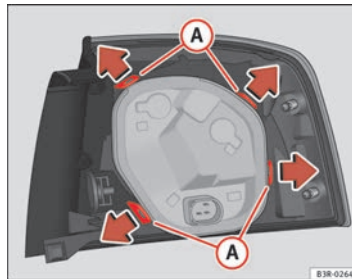

Fig. 227 Retaining tabs on reverse side of rear light
- Release the retaining tabs **A** ⇒ fig. 227.